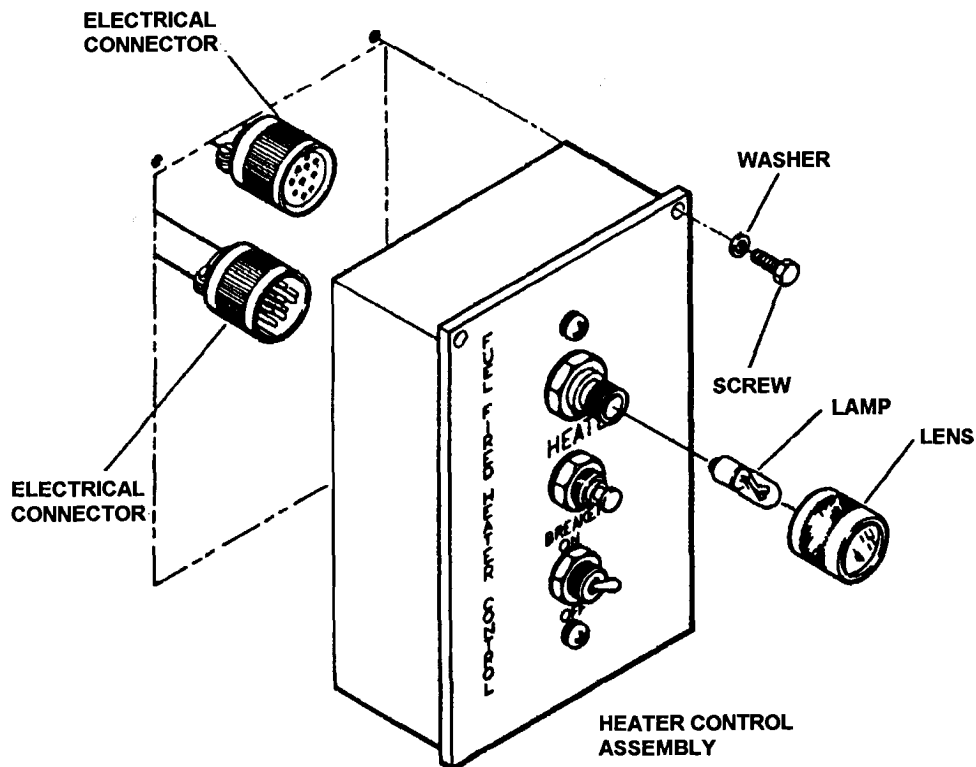

Figure 5-3. Fuel Burning Winterization Kit Heater Control Assembly Maintenance
(1) Removal
- (a) Removal screws (Figure 5-3) and washers.
(2) Cleaning and Inspection.
(3) Lamp Replacement.
- (a) Unscrew lens (Figure 5-3).
(4) Installation.
- (b) Install washers (Figure 5-3) and screws.